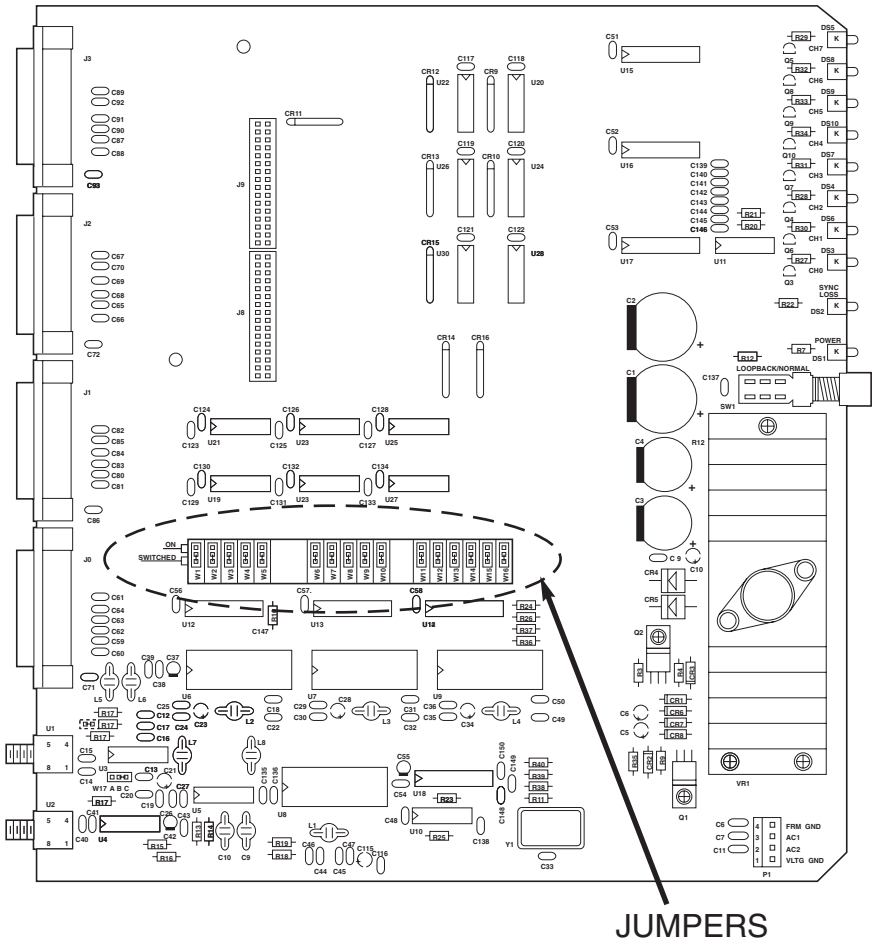

Figure 2-2. The Mux-24's circuit-board layout, showing jumper locations outlined by a dashed oval.
The Async Fiber Optic Mux-24 also has 16 internal configuration jumpers (labeled “W1” to “W16”) for each port’s two handshake-line outputs. When a given jumper is in the “Switched” position, the signal on the corresponding pin (Pin 6 or 8) of a given port will follow the state of its matching signal from the other Mux-24’s Pin 20 or 4. When a given jumper is in the “ON” position, the corresponding pin’s signal will be held high no matter what the state of the matching signal is. This is useful when devices attached to the receiving Mux-24 need to see DSR or DCD asserted in order to transmit, but the DTE attached to the sending Mux-24 doesn’t support DTR or RTS. See Table 2-3 on the next page for a complete listing of these configuration jumpers and Figure 2-2 on page 8 for their locations on the Mux-24’s circuit board.
3. For each signal on each port that needs to be held high, move the corresponding jumper to the "ON" position (see the text on page 6, Table 2-3 on page 7, and Figure 2-2 on page 8).